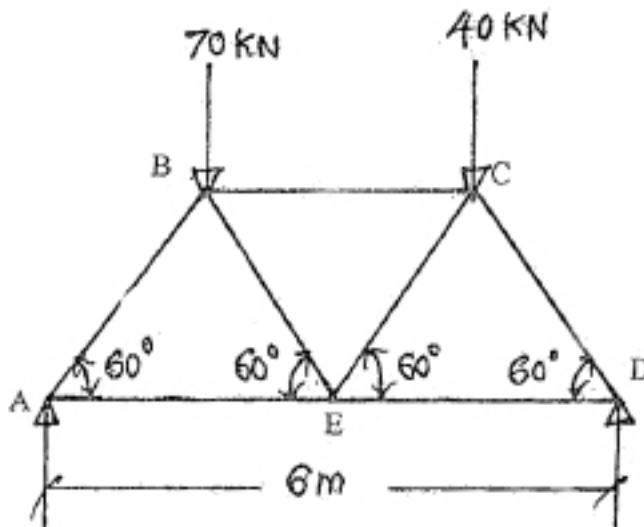

Figure 12(a)
12. a) Determine the forces in all the members of the truss shown in Figure 12 (a) using the method of joints.